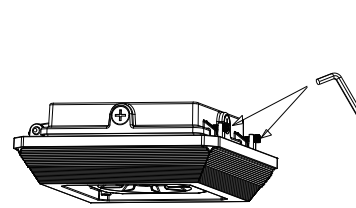

FIGURE 1-1
1. Disassemble the driver box cover by loosening the two screws on the driver box (Figure 1-1)